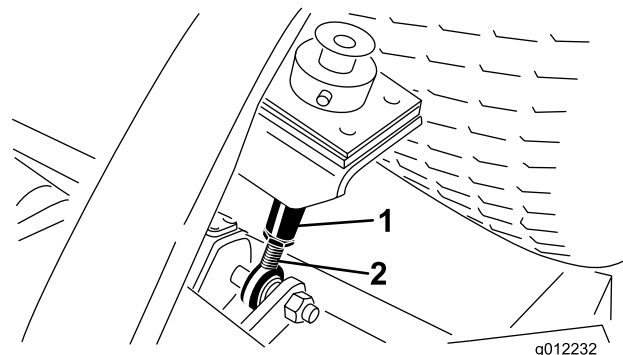

Figure 19
6. Loosen the jam nuts on the bottom of the height-of-cut rods (Figure 19).